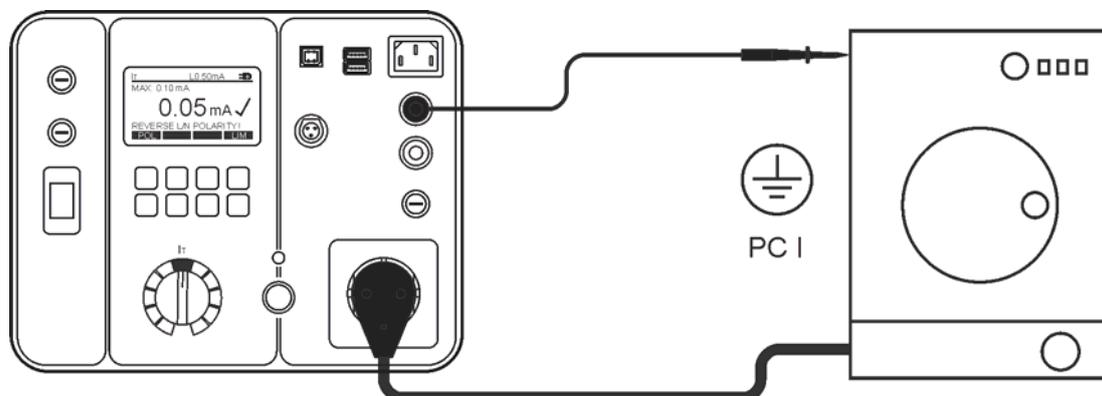

Figure 22: Touch leakage current test connections at appliance PC I.
- Connect the appliance and the test lead according to the figure 22 or 23, depending on appliance protection class (PC).